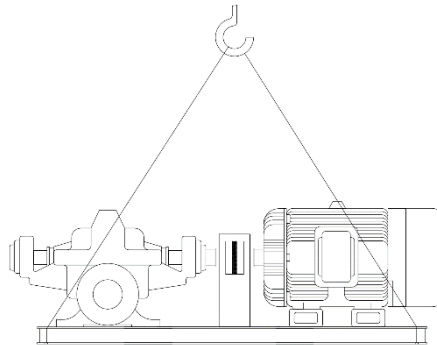

Figure 1: SCH Series
- When lifting or hoisting the SCH series figure 1 is highly recommended: